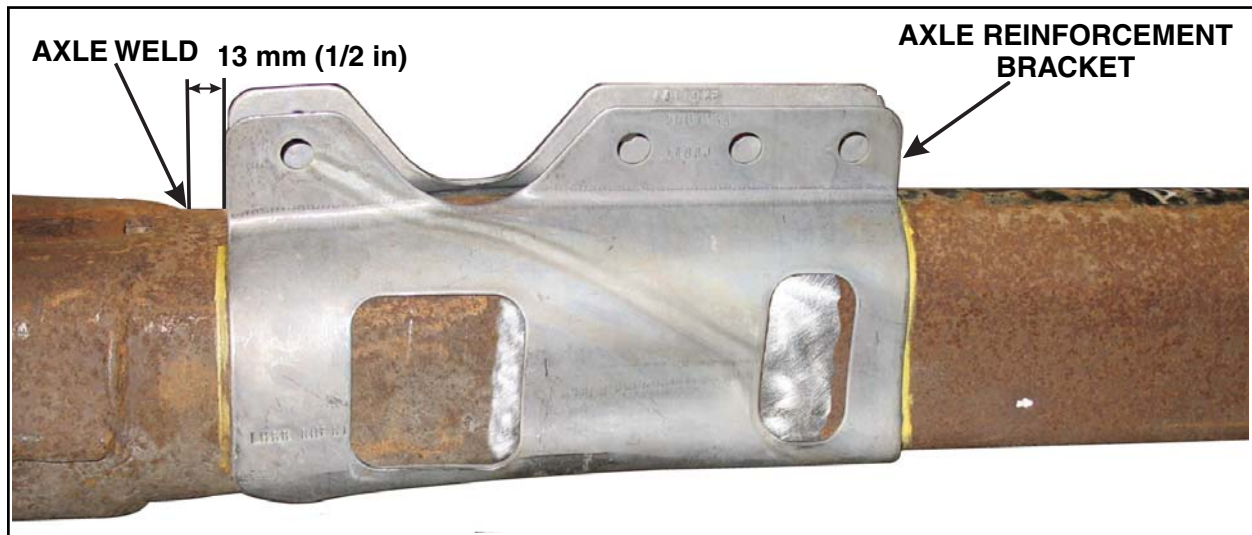

FIGURE 2
2. Using a hammer, dry fit both sets of axle reinforcement brackets 13 mm (1/2 in) from the top of the axle weld. Using a paint pen or marker, outline the outer edges of the axle reinforcement brackets. See Figure 2.